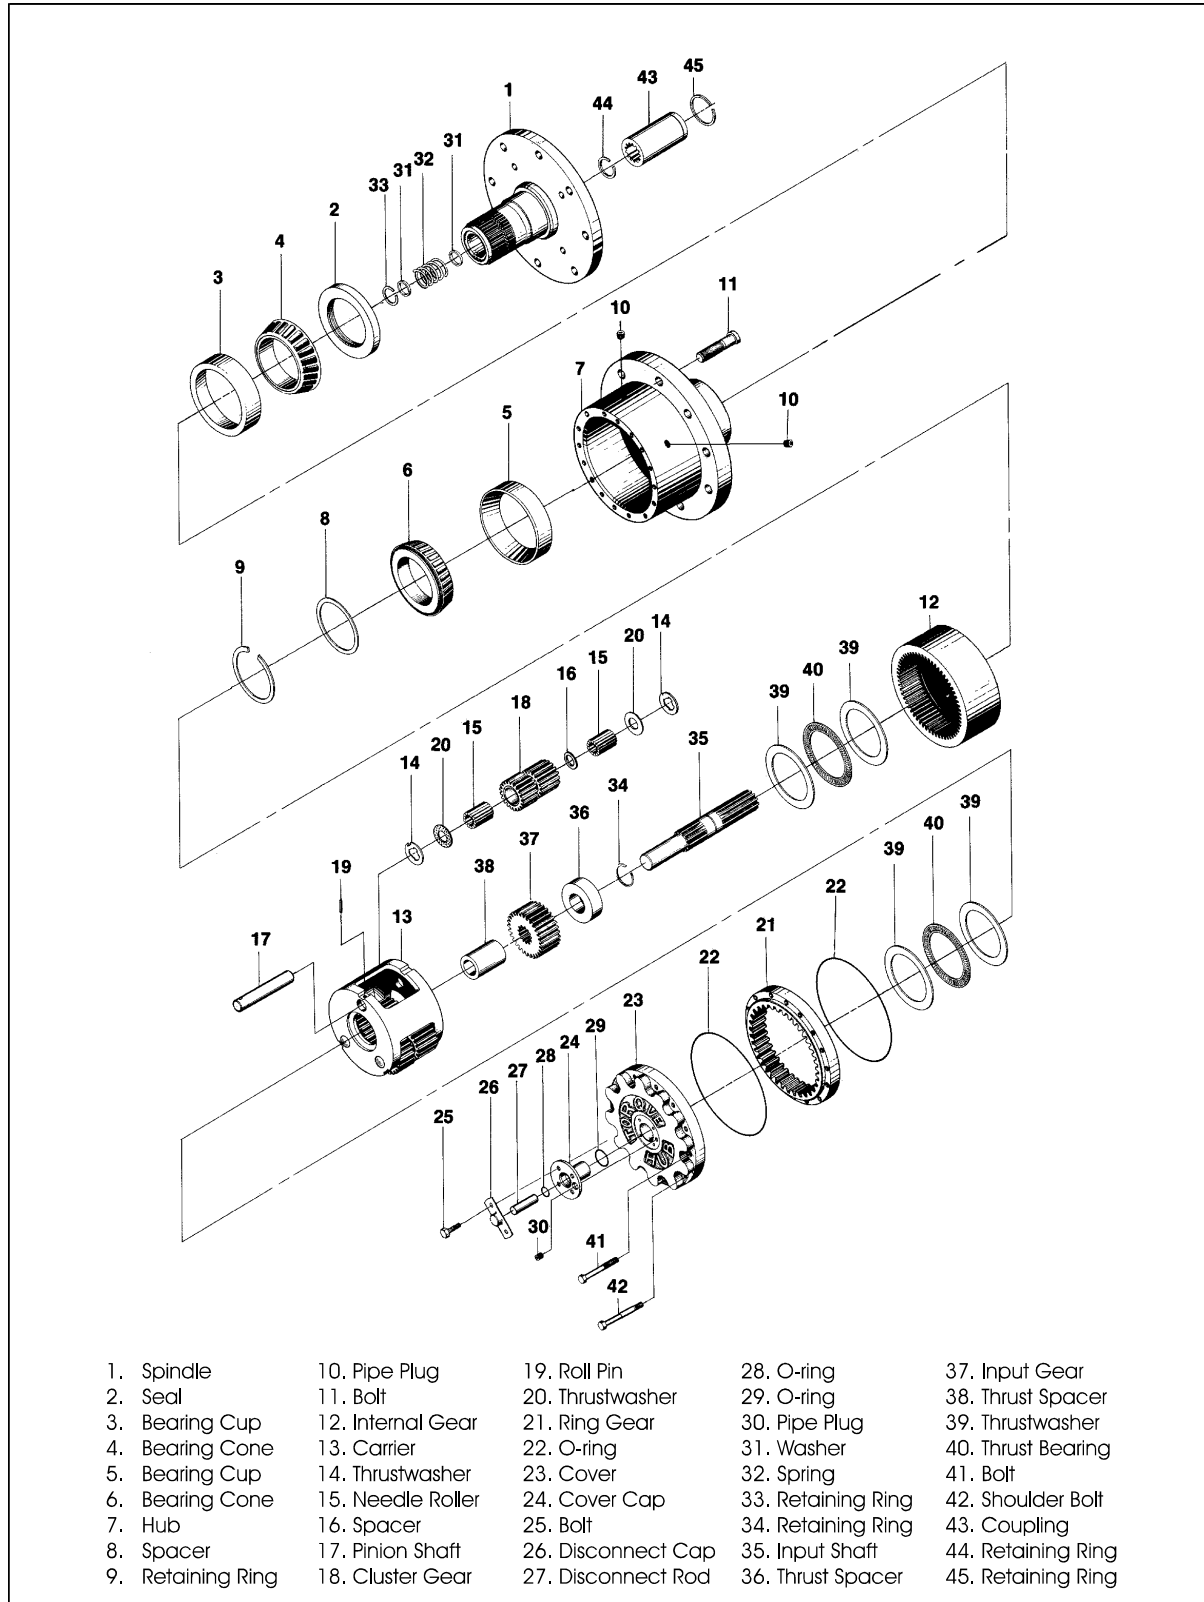

Figure 2-33. Torque Hub Assembly
2.19 TORQUE HUB (SEE FIGURE 2-33.)